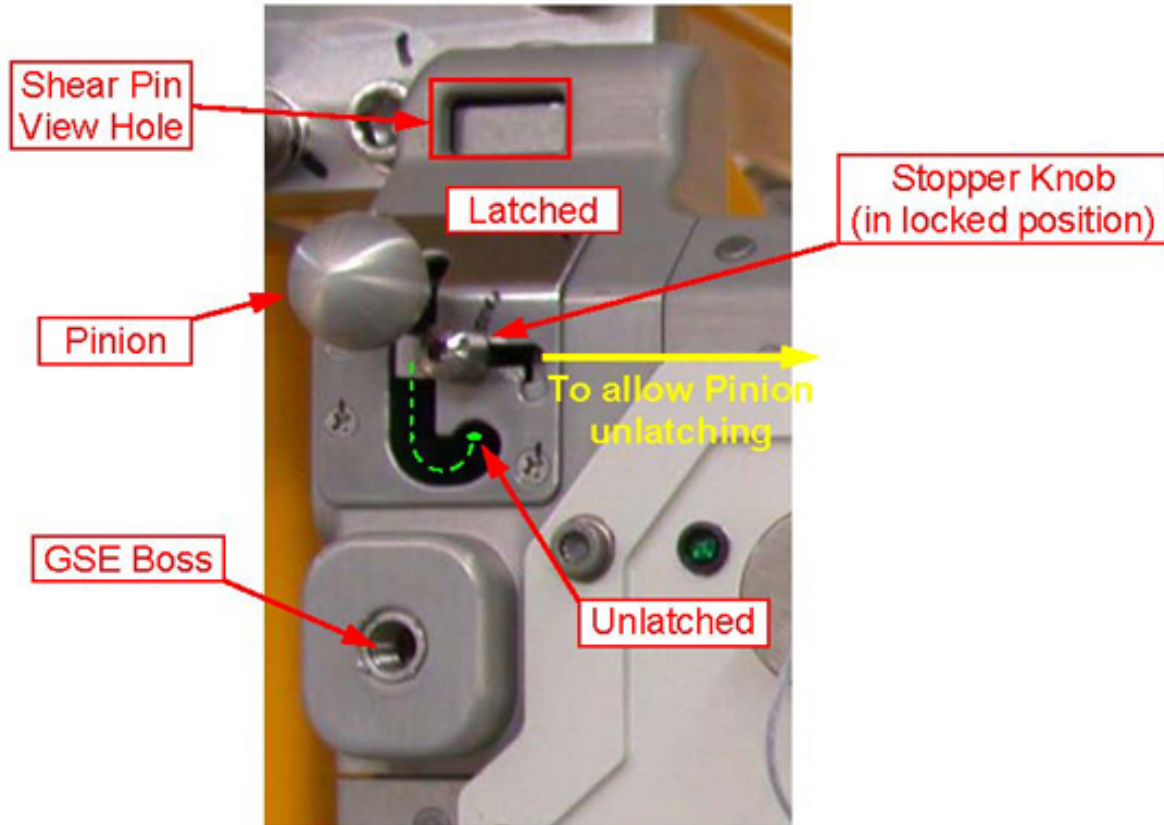

Figure 8. ISPR Upper Attach Mechanism (Left), Typical.
- 3.2 Loosen left Upper Attach Mechanism Stopper Knob (Ratchet Wrench 3/8"; 6" Long, 5/32" Hex Head, 3/8" Drive). Move to the right to allow Pinion unlatching. Refer to Figure 8.
- 3.3 Left Pinion → Unlatched. Refer to Figure 8.
For the execution of following steps refer to Figures 8 and 9.